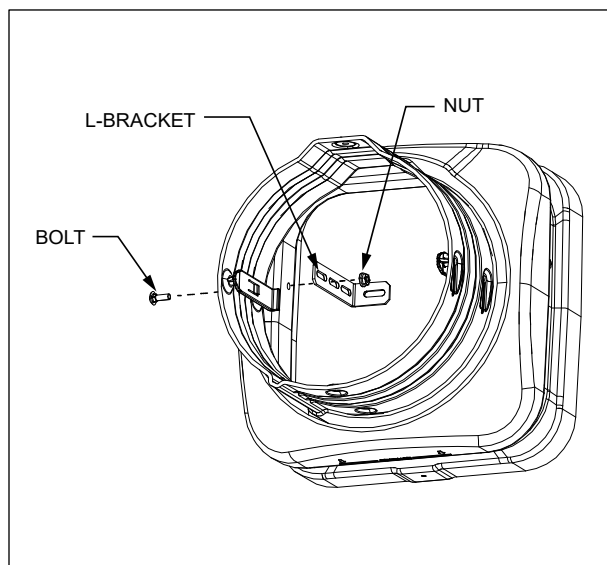

Figure 2 Install L-bracket
4. Use one bolt and one nut per L-bracket to secure the L-bracket to the base (Figure 2). Torque hardware to 60 lb-in.